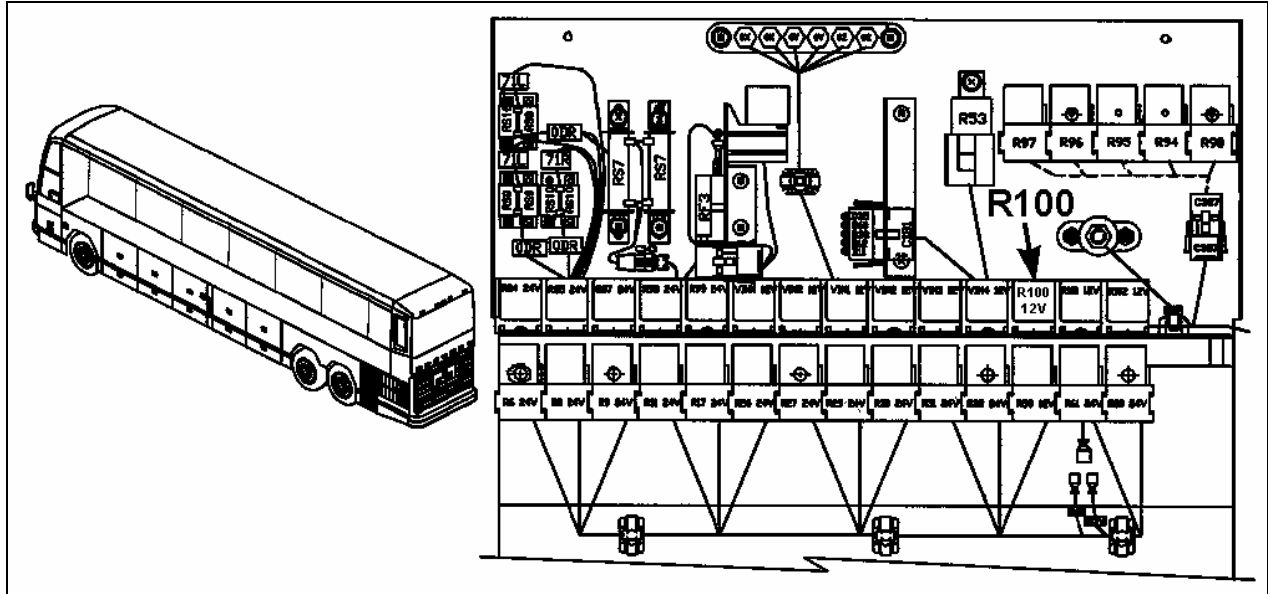

FIGURE 2: LOCATION OF RELAY R100 ON REAR JUNCTION PANEL
1. Locate relay R100 on the rear junction panel (Refer to figure 2).